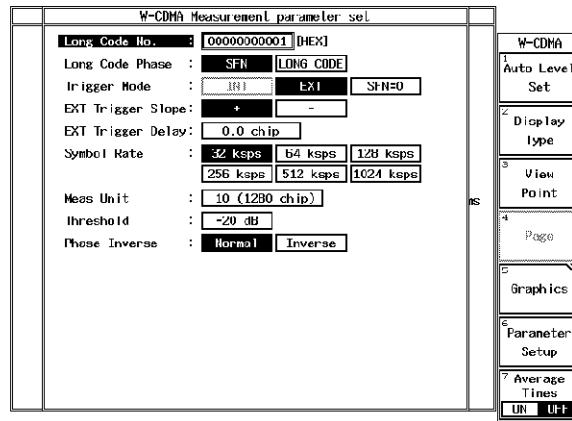

Figure 6-6 Setting of Parameter for W-CDMA Measurement Test
6. On the R3267/73, set the parameter referring Figure 6-6.